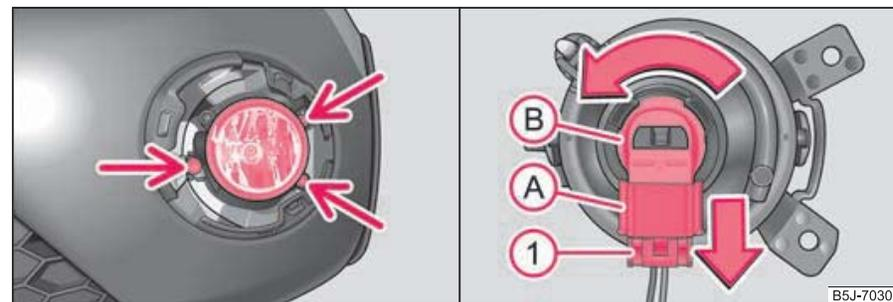

Fig. 175 Front bumper: Fog lights/changing the bulb
- Screw out the screws ⇒ fig. 175 - left with the aid of the screwdriver, which is part of the vehicle tool kit¹³⁾.
- Press the locking button ① ⇒ fig. 175 of the plug ② and remove the plug from the socket ③.
- Turn the socket ④ with the bulb to the left up to the stop and take it out.
- Connect the plug ② to the socket ④.